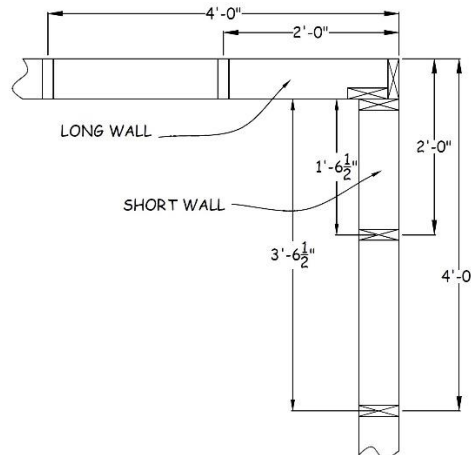

Figure 3-4. Corner Layout.
- For plates on the long walls, take into account that the studs are placed on 2' centers from the outside of the zero corner. Plates on the short walls will be cut 5½" shorter than that to place their ends inside the long wall plates (see Figure 3-4).